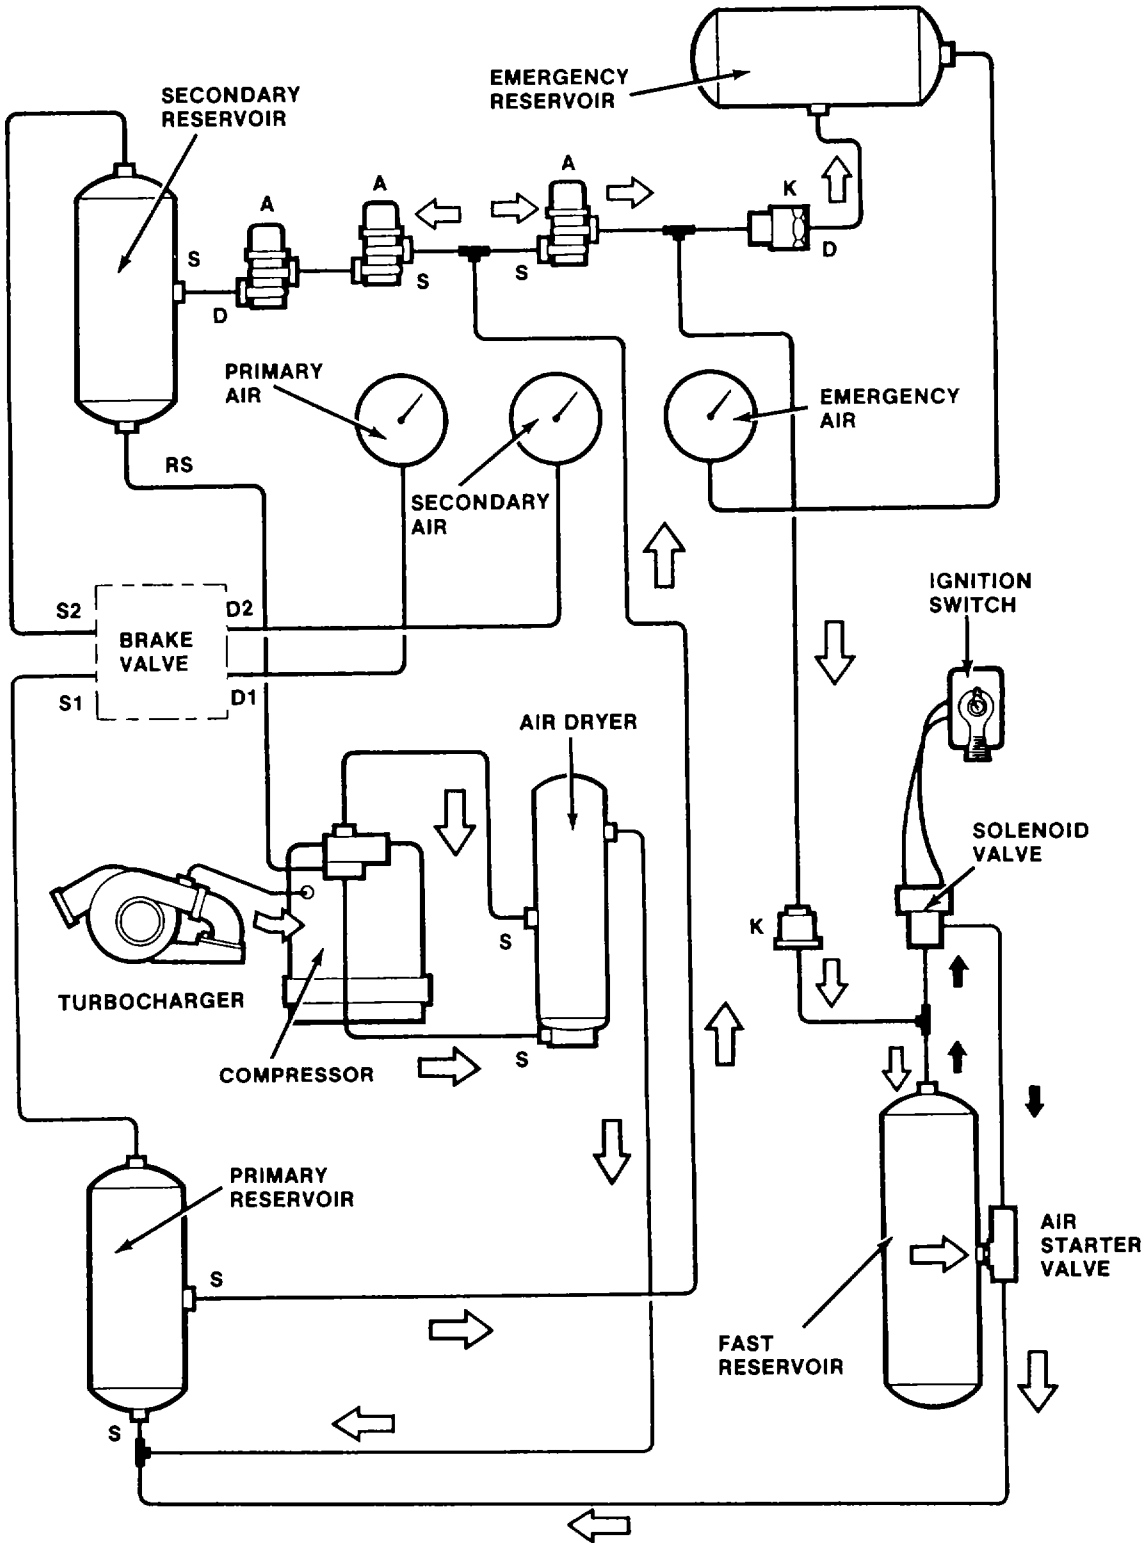

Figure 1-34. Air Supply and Storage System
(1) The air flow through the system is shown in figure 1-34. Filtered air is drawn from the engine turbocharger into the compressor. Here the air is compressed and discharged via the dryer into the primary reservoir.
(2) The air flow from the primary to the secondary, emergency, and fast reservoirs is restricted by pressure protection valves (A). These valves isolate the primary reservoir until sufficient pressure is available to permit vehicle operation. When this pressure is obtained, pressurization of the remaining reservoirs takes place. The check valves (K) prevent backflow from the emergency and fast reservoirs once these are charged.
(3) The fast reservoir is open to the primary reservoir whenever the ignition switch is set to ON. The reservoirs are connected via the air starter valve. This valve is operated by pilot air pressure from the fast reservoir via a solenoid valve.
(4) To provide quick pressurization of the primary tank immediately after start up, the fast reservoir is maintained fully charged and isolated when the ignition is OFF.
(5) During normal operation, the system is charged until maximum pressure is reached in all reservoirs. When this occurs, the system pressure is sensed by the compressor via the (RS) line from the secondary reservoir and the compressor starts to unload. Unloading continues until the system pressure is well below maximum. When this happens, the unloading stops and charging continues.
(6) While the system is charging, the air flowing through the air drier is dehumidified. The moisture is precipitated and collected in the bottom of the drier. When the compressor unloads, the discharge air opens a valve in the bottom of the drier and the accumulated moisture is blown out by a backflow of pressurized air. This air, still hot from compression, also removes residual moisture from the drying element.
(7) Pressure gages for the primary, secondary, and emergency reservoirs are provided in the cab.